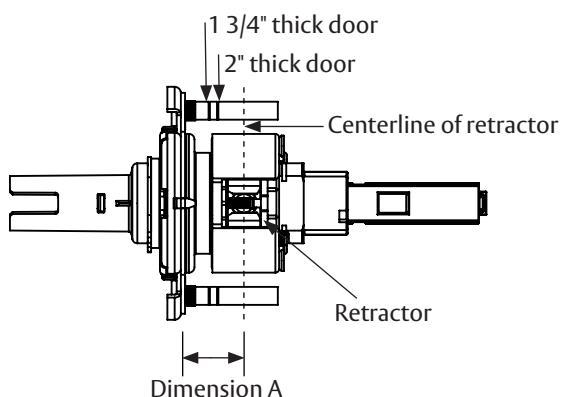

Figure 5-5D
- Verify correct position from the markings on the through-bolt stud, or by measuring from inside surface of the mounting plate to the centerline of the retractor. (Figure 5-5D)